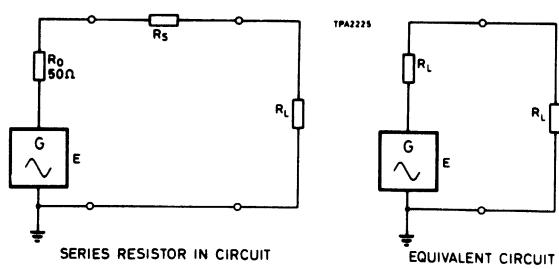

Fig. 4 High impedance matching.
16. To match a load that is greater than 50Ω to the output of TF 2016A a resistor R_s is required to be added in series with the generator output as in Fig. 4. The value of R_s is given by the difference between the load and the generator impedances, i.e.
Circuit diagram : Chap. 7, Fig. 4 (A1 & A2)